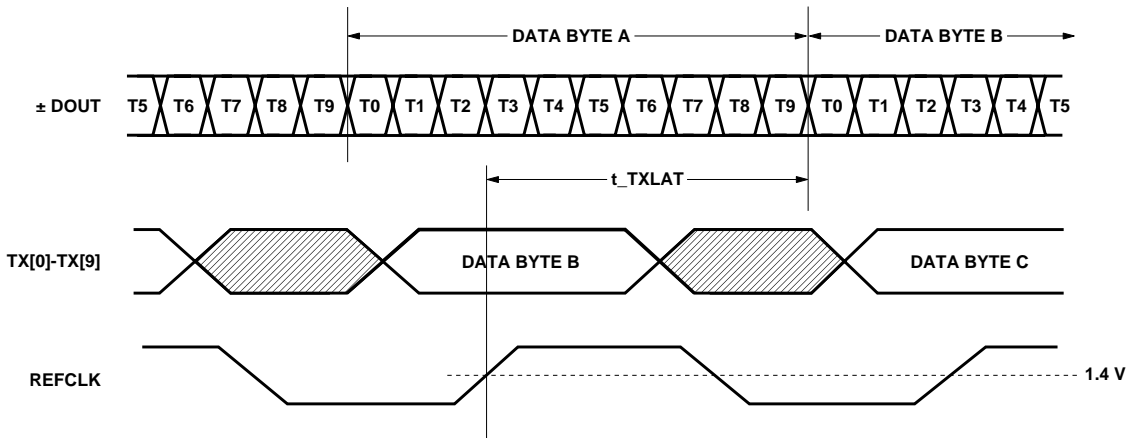

Figure 4. Transmitter latency.
1. The transmitter latency, as shown in Figure 4, is defined as the time between the latching in of the parallel data word (as triggered by the rising edge of the transmit byte clock, REFCLK) and the transmission of the first serial bit of that parallel word (defined by the rising edge of the first bit transmitted).
2. The transmitter latency, as shown in Figure 4, is defined as the time between the latching in of the parallel data word (as triggered by the rising edge of the transmit byte clock, REFCLK) and the transmission of the first serial bit of that parallel word (defined by the rising edge of the first bit transmitted).